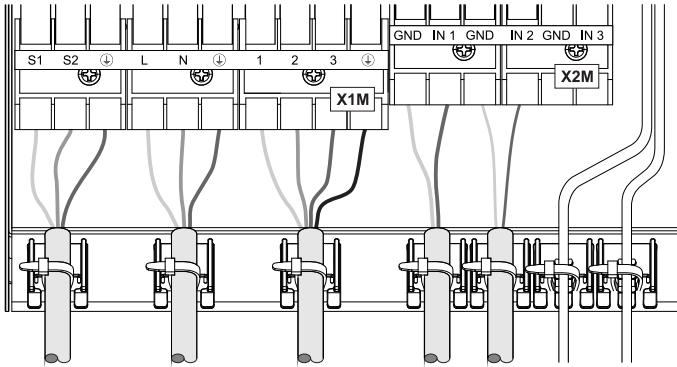

Fig. 4-8 Tension relief using cable ties
- For all the cables connected to the DAIKIN EKHP effective tension relief must be ensured in the controller housing using cable ties (see Figures 4-8 to 4-10).